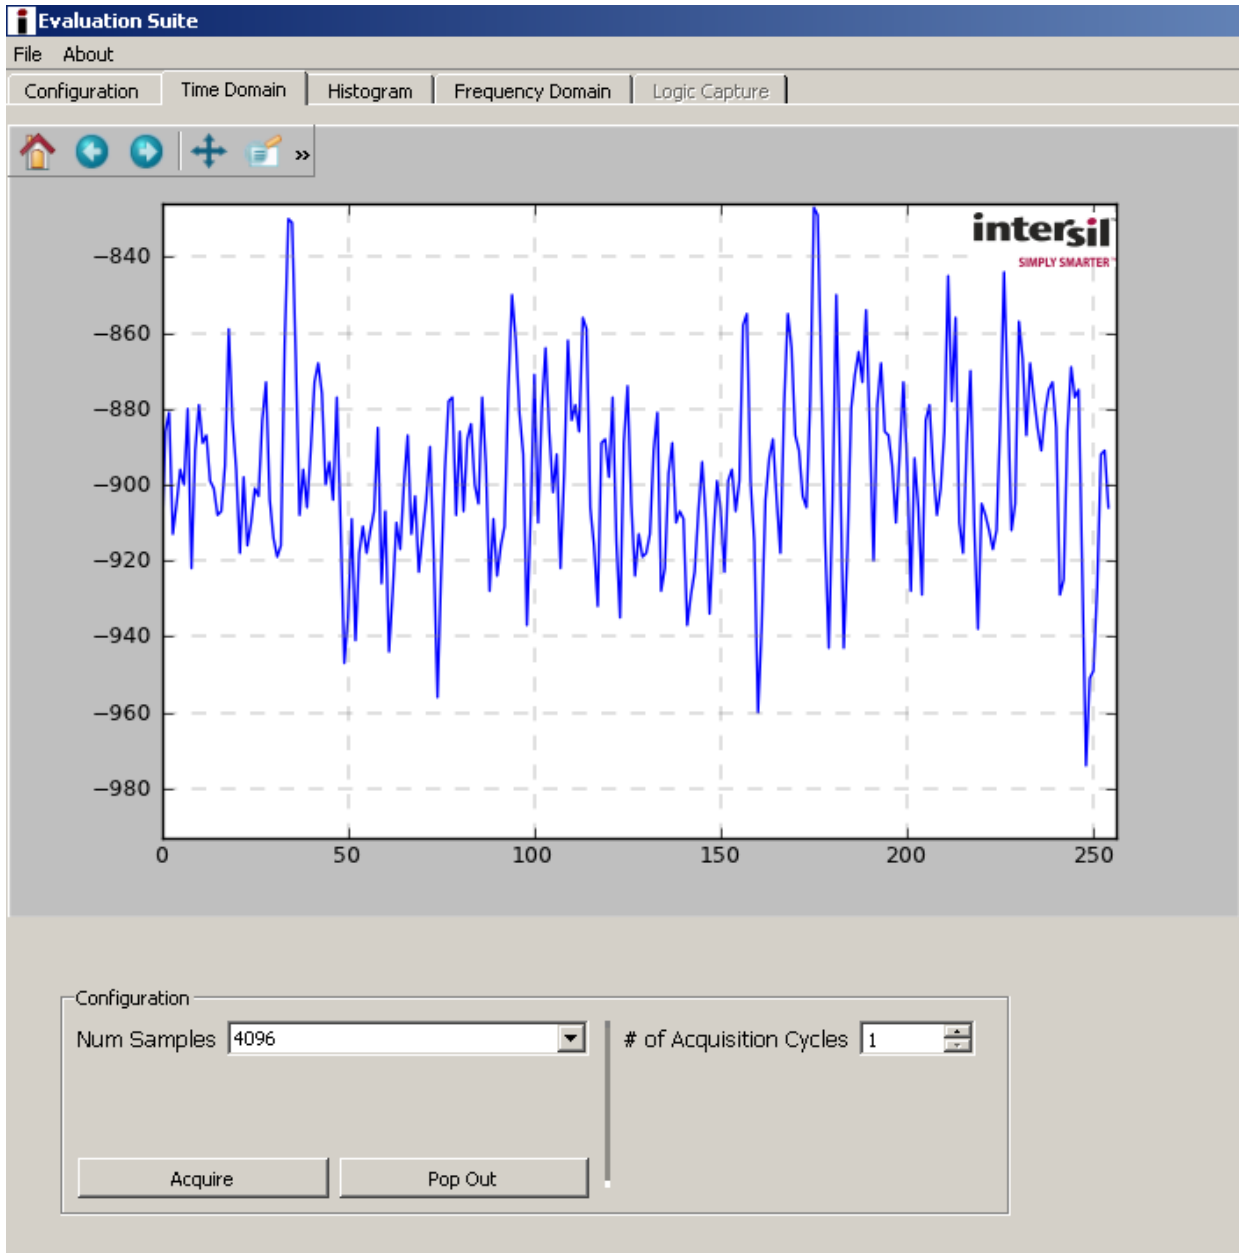
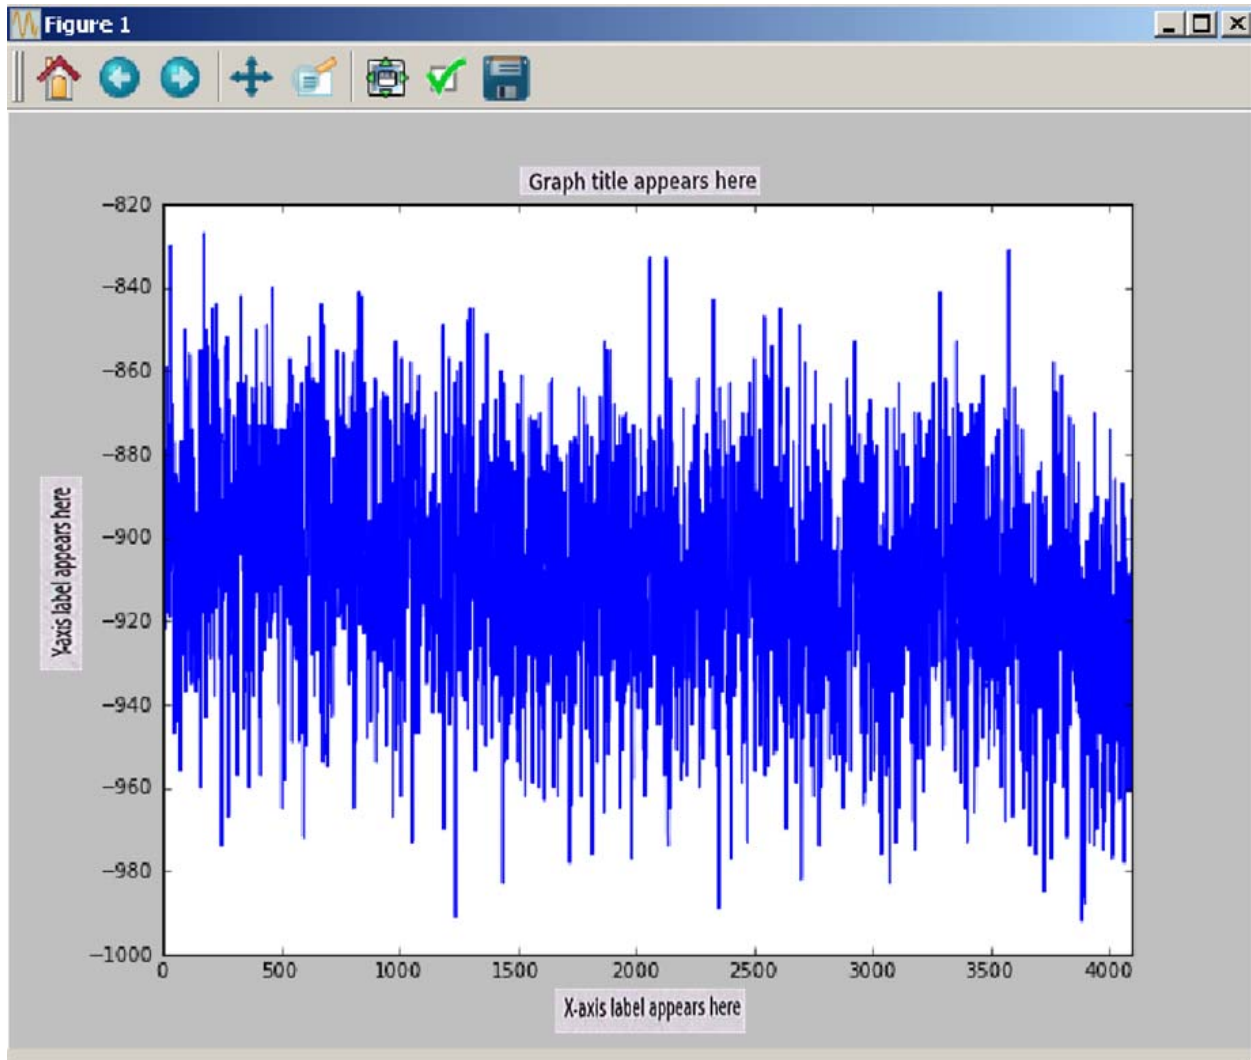

FIGURE 10.
FIGURE 12. EXPANDED VIEW OF FIGURE 10
samples will be collected and the samples up to 256 will be displayed in the graphing window. If greater than 256 samples are collected, then, after the samples are captured and the first 256 are displayed, the time plot of the entire sample set can be displayed by clicking on the **Pop Out** button. Figures 10 and 12 illustrate the capture of 4096 samples. The window in Figure 10 displays only the first 256 samples. Figure 12 illustrates the results when the **Pop Out** button has been selected.
**Check Box:** Allows customization of axis labels/plot title as shown in Figure 12.